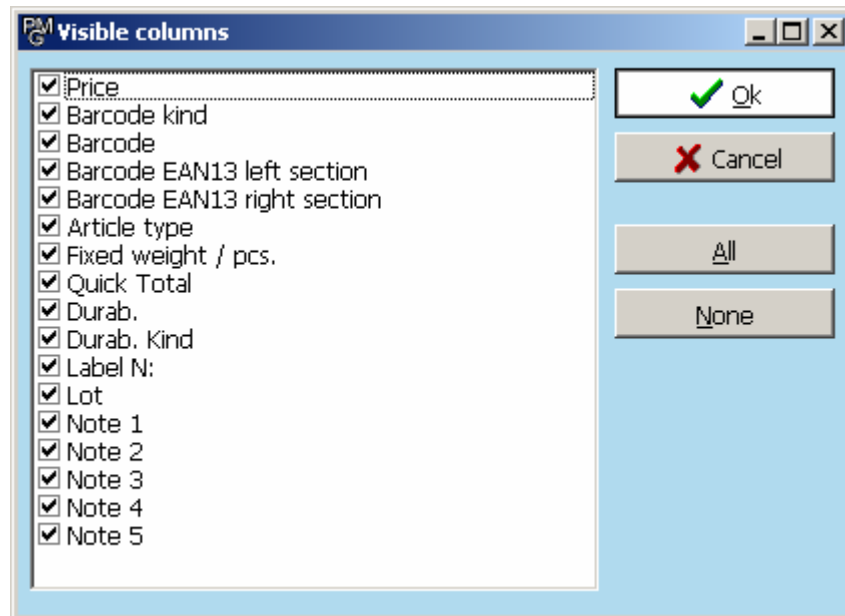

Fig.9 – Screen to select columns to visualize.
- 5 - #Columns – Pressing the key opens the screen to select columns to visualize (Fig. 9). In this screen you can select which fields with data for the articles to be visualized.